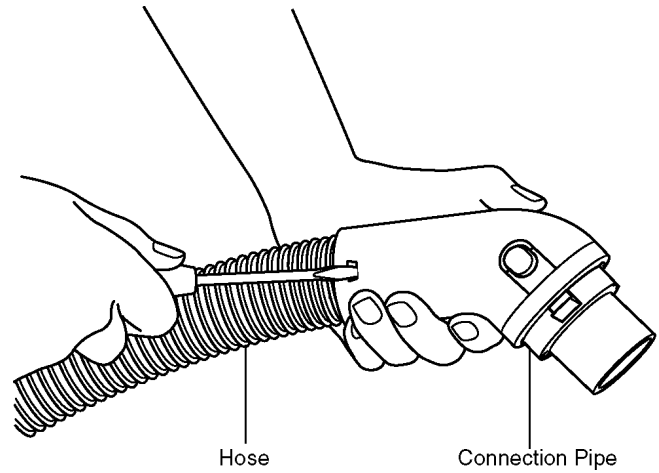

Fig.1
1. Disconnect the hose U by depressing the projection in the hole on each side of the connection pipe (Fig.1).